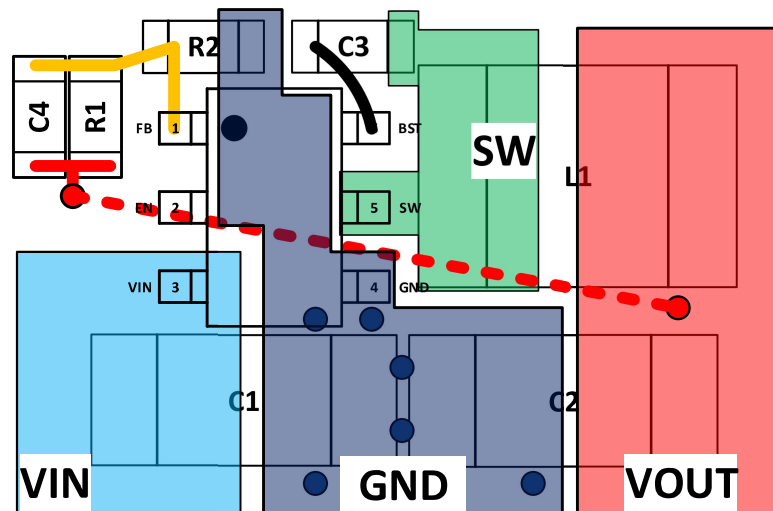

Figure 25. Recommended Layout
6. See Figure 25 for reference.